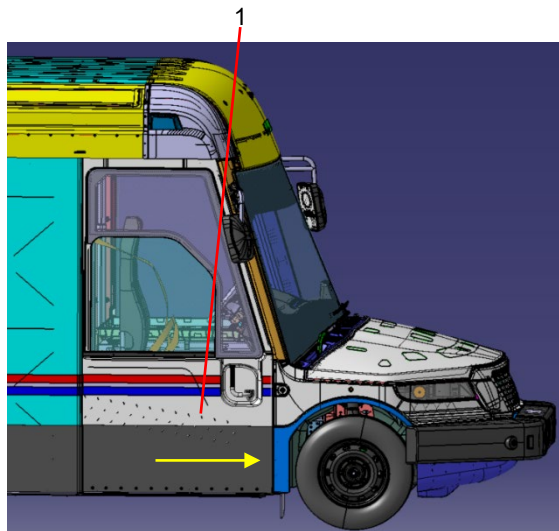

Figure 4. EV Danger Label Installation.
- 7) Position the curbside door (Figure 4, Item 1) in the “closed” position and return the vehicle to service.